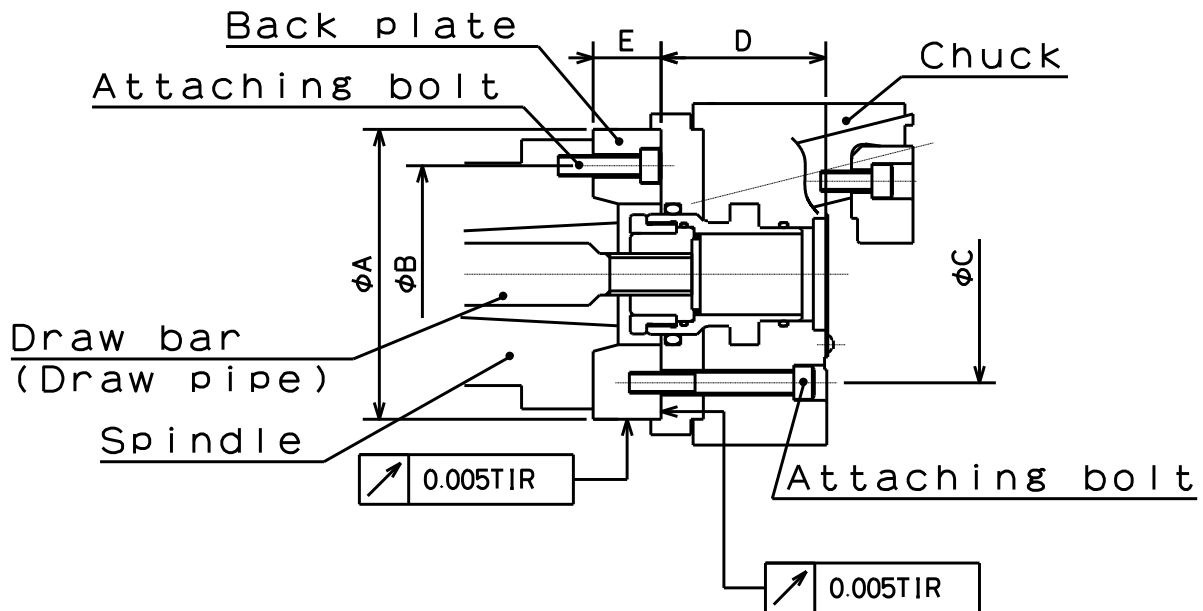

Fig.9
- Fig.9 shows the case of the JIS short taper standard.